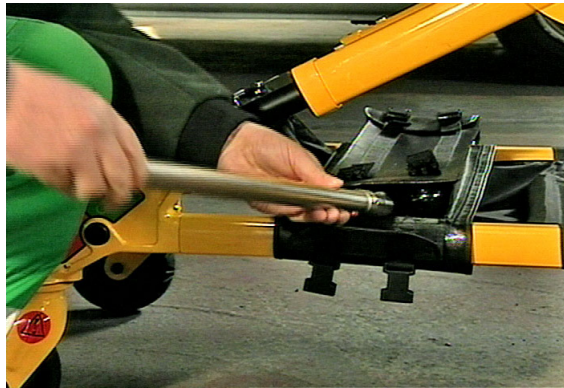

Figure 28.2: Stored Push Bar
2. Place the removed push bars into the storage pouch that is located on the base frame as shown in Figure 28.2.